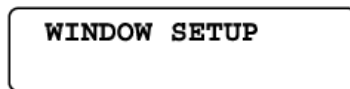

Figure 8-163 Color Video Printer Window Display (WINDOW SETUP top menu displayed)
- 4.) Press the  button to display the WINDOW SETUP menu (Figure 8-163 below).
- 1.) Return to the WINDOW SETUP top menu using the  button (Figure 8-163, above).